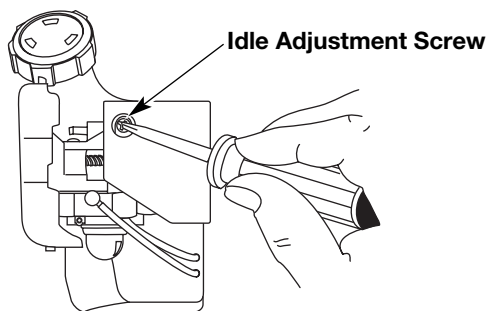

Figure 35
The idle speed of the engine is adjustable through the air filter/muffler cover. See Figure 35.
2. Release the throttle trigger and let the engine idle. If the engine stops, insert a small phillips or flat blade screwdriver into the hole in the air filter/muffler cover. See Figure 35. Turn the idle speed screw in, **clockwise**, 1/8 of a turn at a time (as needed) until the engine idles smoothly.